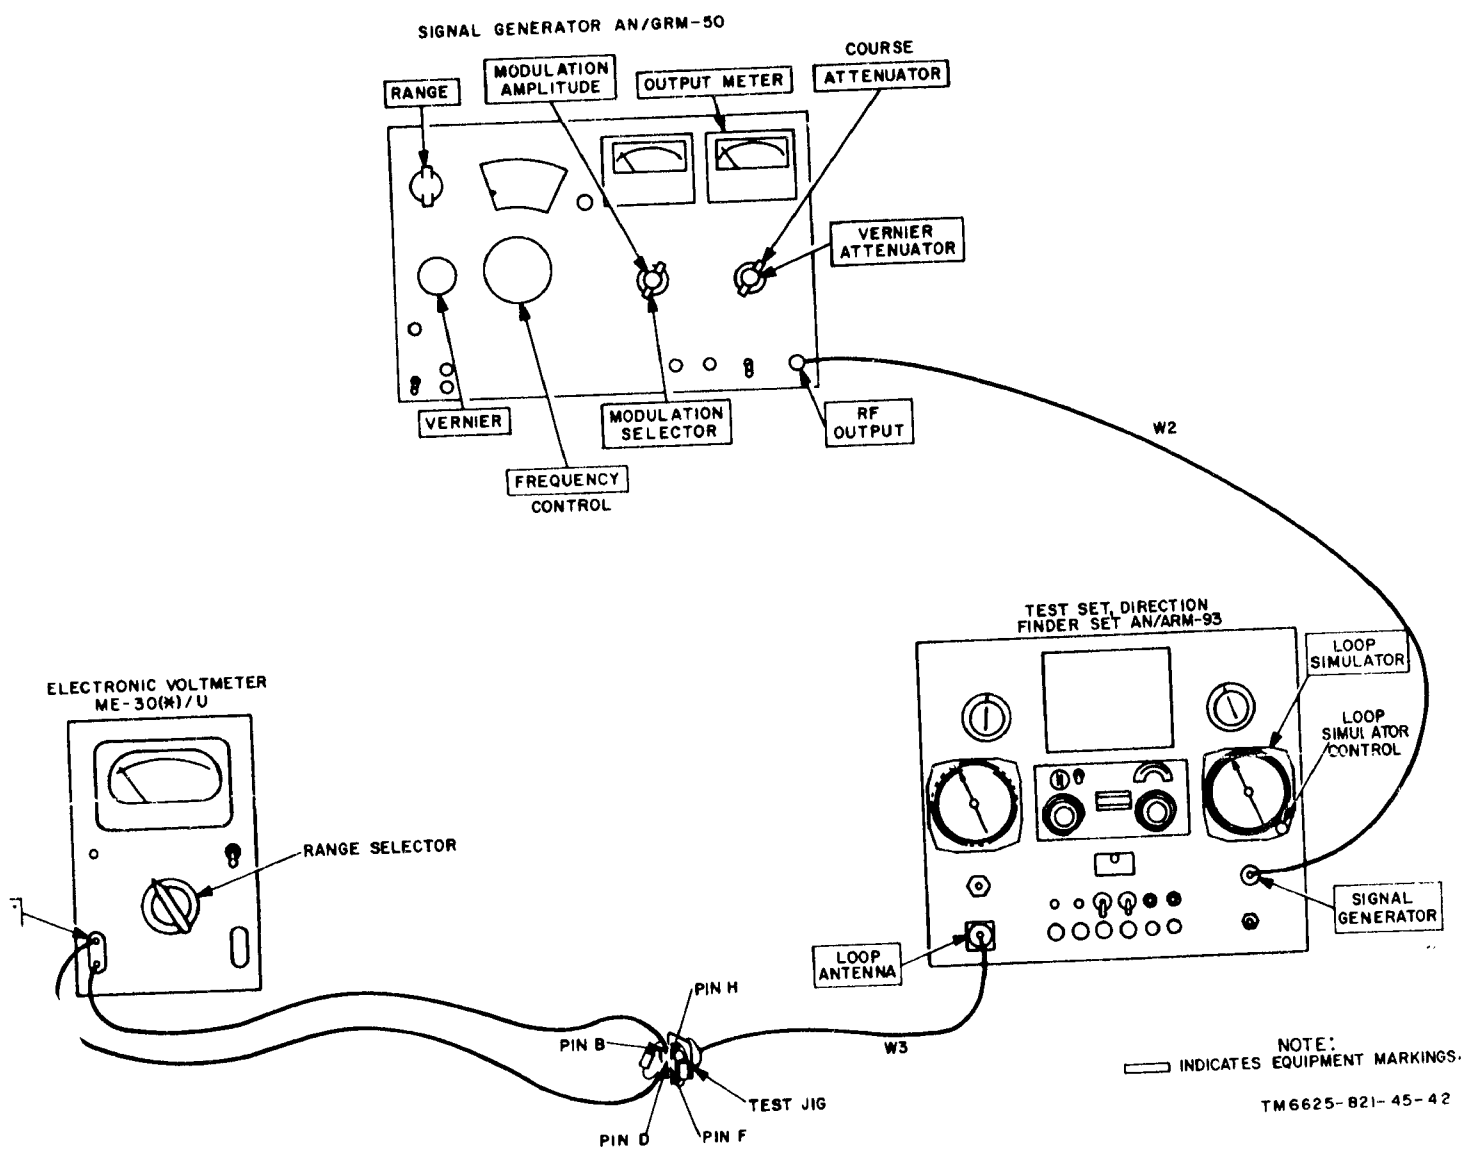

Figure 4-11. LOOP SIMULATOR output test.
- (1) Signal Generator AN/GRM-50.
- (2) Voltmeter ME-30A/U.
- (3) Test jig for the LOOP SIMULATOR.
b. Test Conditions and Connections. Connect the equipment as shown in figure 4-11. Throw the power switch on the AN/GRM-50 to ON and allow a 15-minute warmup period.